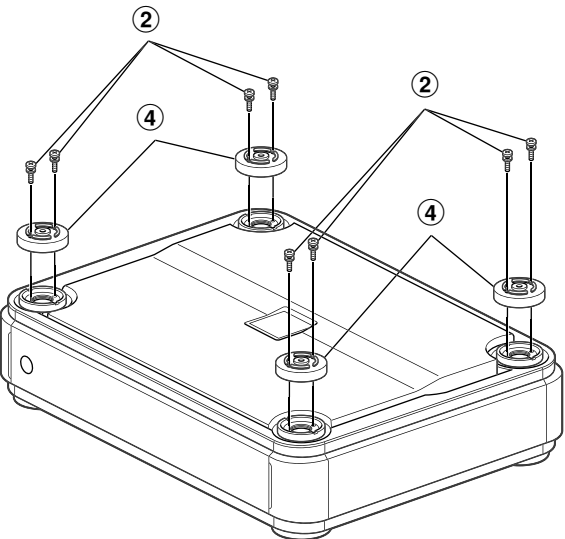

Fig. 3
- Machine Screw (M2.6 x 14, see ② of Fig.3 on the left)
- Joint Cap (see ④ of Fig.3/4 on the left)
- Attach the four joint caps on the four corners of the first unit with 2 machine screws (M2.6 x 14, supplied) per each cap. Refer to fig.3.